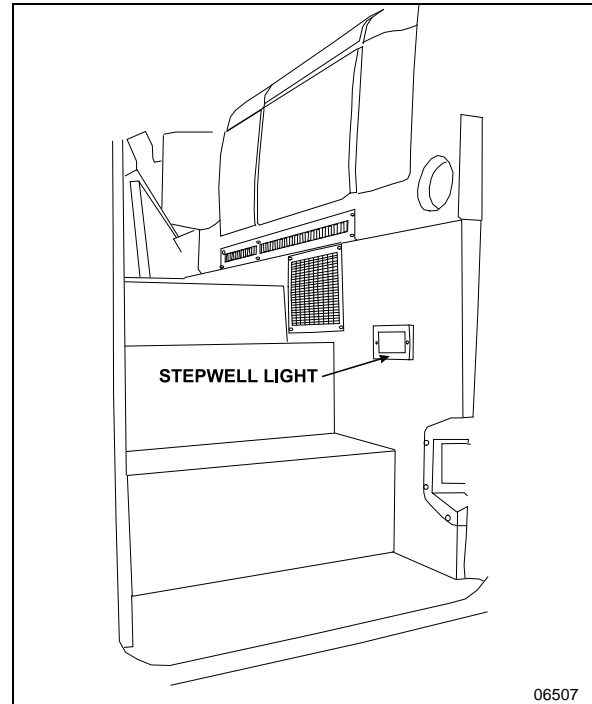

FIGURE 70: VIP ENTRANCE STEPWELL
3. To install a new switch, reverse the procedure (FIGURE 70).